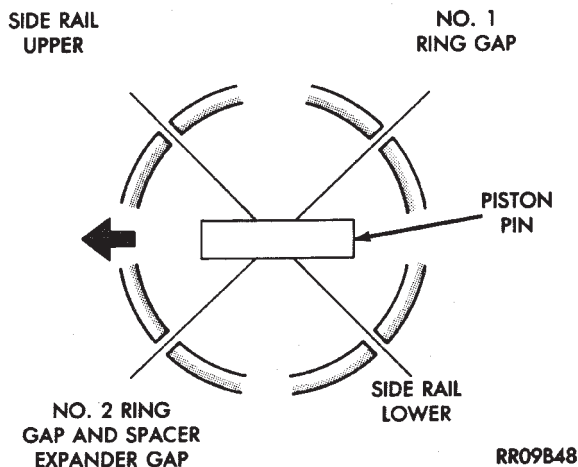

Fig. 97 Piston Ring End Gap Position
- (10) Position piston ring end gaps as shown in (Fig. 97).
- (11) Position oil ring expander gap at least 45° from the side rail gaps but **not** on the piston pin center or on the thrust direction. Staggering ring gap is important for oil control.
(2) Before installing pistons and connecting rod assemblies into the bore, ensure that compression ring gaps are staggered so that neither is in line with oil ring rail gap (Fig. 97).